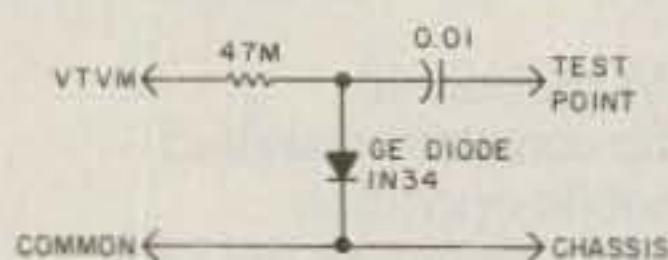

Fig. 1. Rf probe for alignment.
5. Attach an rf probe and VTVM to the base of Q7. If you don't have an rf probe, use the circuit Heath suggests in Fig. 1. Adjust L19 for maximum response on the VTVM and then turn the coil slug ¼ turn counterclockwise. L19 is the bottom slug in the L19/L21 coil can.